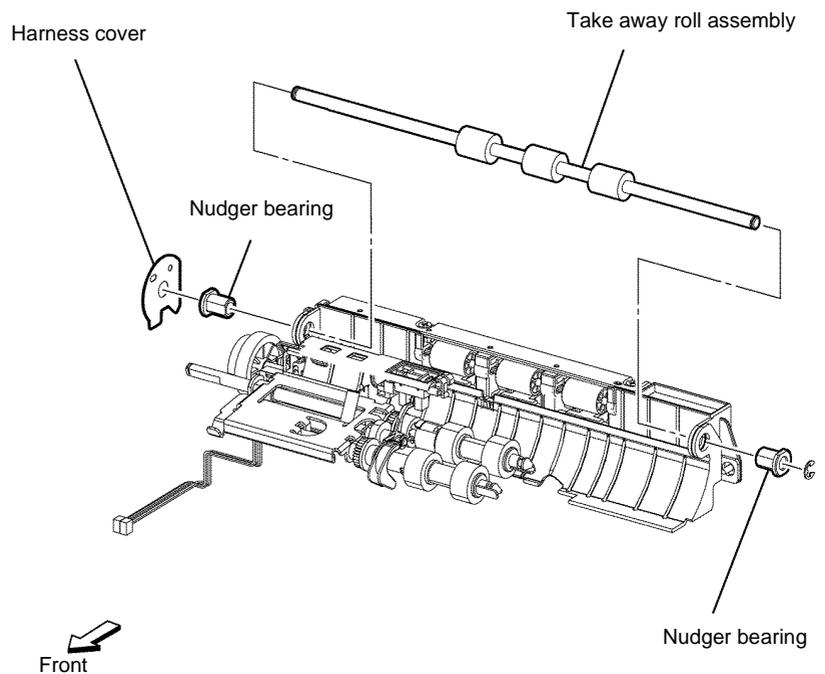

Figure 1 Option feeder take away roll assembly removal
5. Remove the E-ring and nudger bearing, then remove the option feeder take away roll assembly by shifting it to the left, Figure 1.